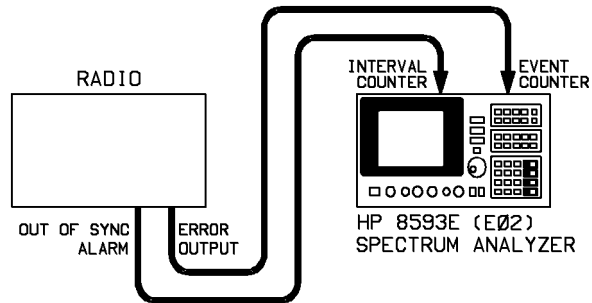

Figure 3-25. Event Counter Test Setup
3. Set up the equipment as shown in Figure 3-25.